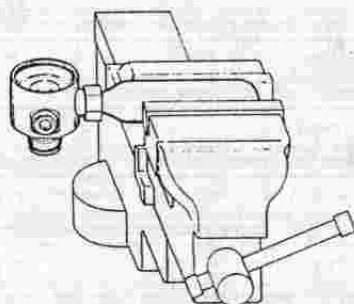

FIGURE 4
1. Screw an empty CO₂ cartridge, clockwise into a low-pressure port on the first-stage body (Item 1). Mount the first-stage body in a bench vise, mainspring side facing upward, by means of the CO₂ cartridge. (See Figure 4.)